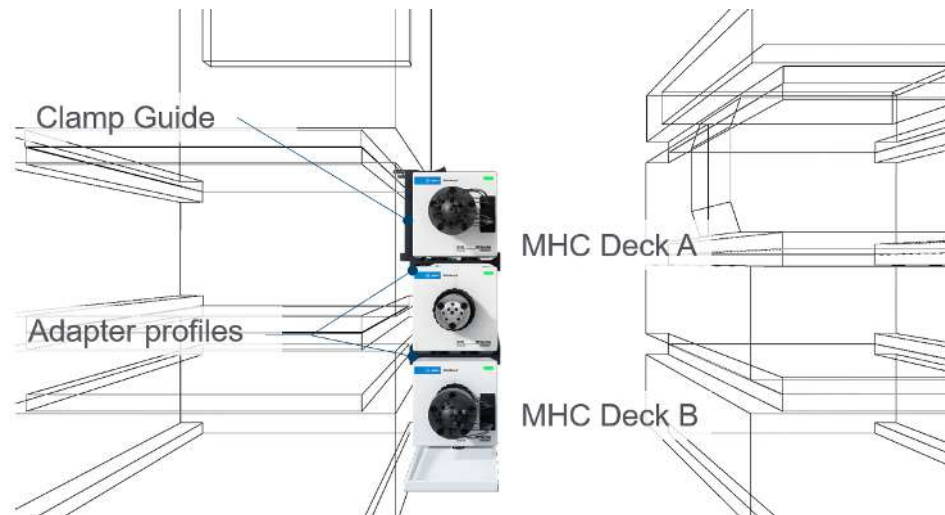

Figure 27: Schematic of the installation and attachments of the 2D-LC valve and optionally the MHC decks.
- 4 Attach the adapter-profile on each of the other external valve drives and mount them according to the positions shown in Figure 27 on page 58.